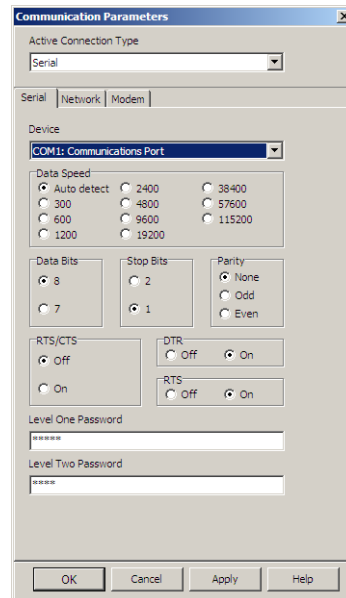

Figure 3.2 Serial Port Communication Parameters Dialog Box
- Step 2. Select the **Parameters** submenu to display the screen shown in *Figure 3.2*. Configure the PC port to match the relay communications settings.